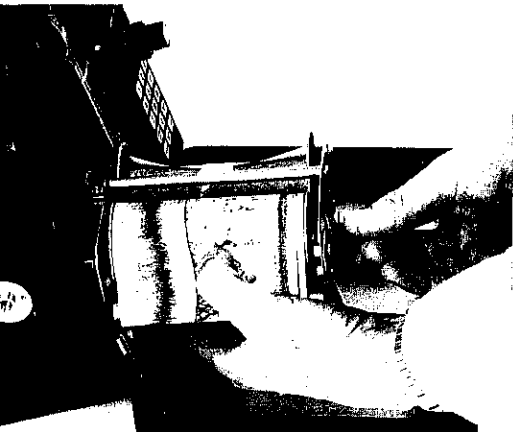
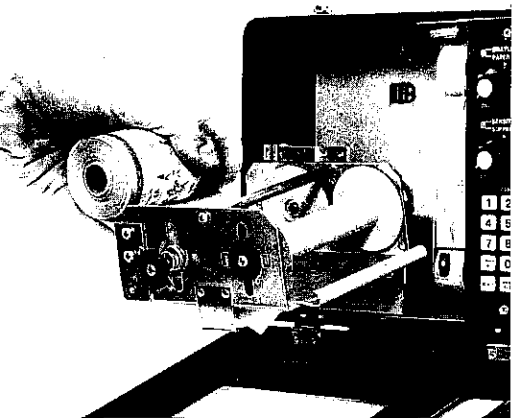

Figure 28
Figure 29
5. To remove the full take-up roll, push in and rotate the left paper retainer knob until it snaps out. (See Figure 28.) The roll can now be easily removed from the paper spool end caps. (See Figure 29.)